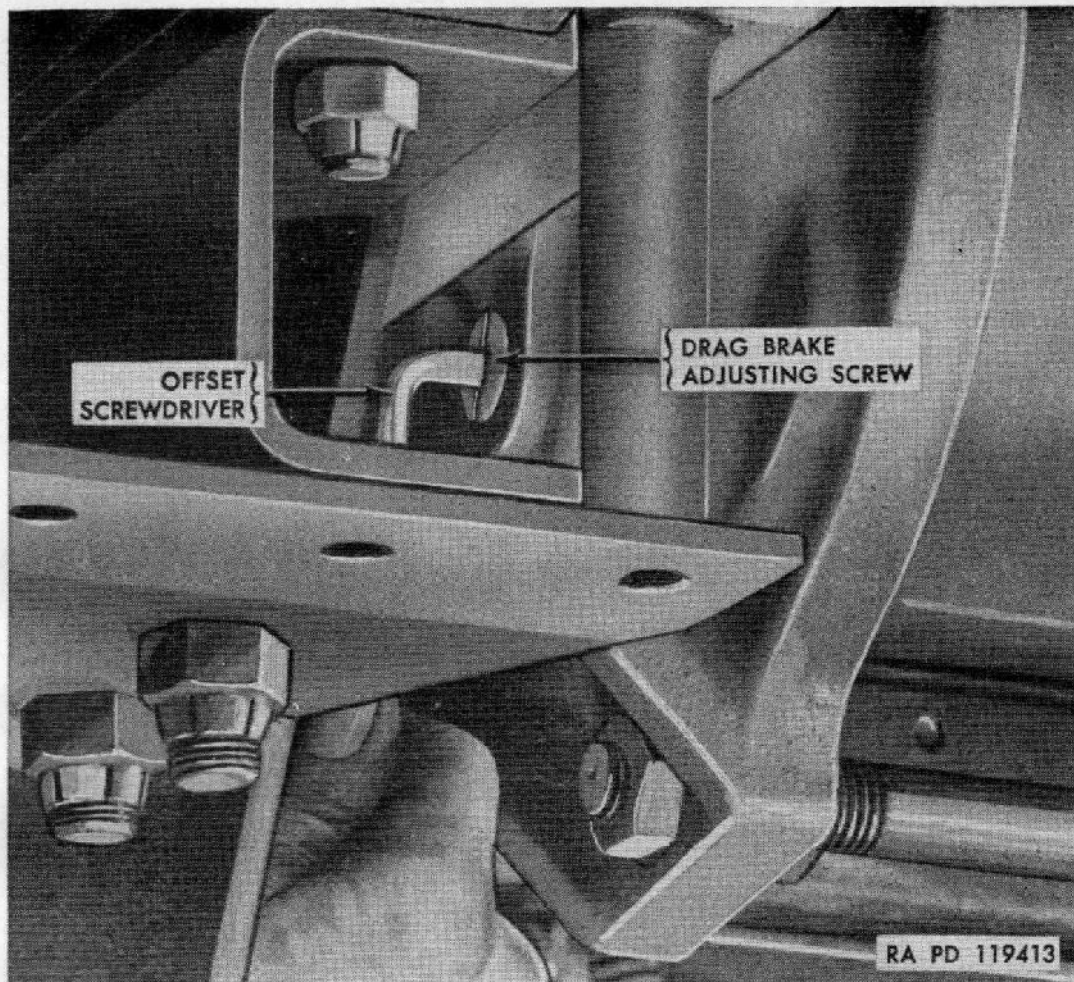

Figure 134. Winch drag brake adjustment.
a. DRAG BRAKE (fig. 134).
- (1) *Test.* Normally, the drag brake will not require adjustment, but adjustment can be checked by pulling cable off drum with winch clutch disengaged. If drum continues to turn when pull stops, adjust in accordance with (2) below.
- (2) *Adjustment.* The drag brake is tightened, to prevent drum from spinning when pulling off wire rope by hand, by turning adjusting screw clockwise (fig. 134). Test adjustment in accordance with *a*(1) above.